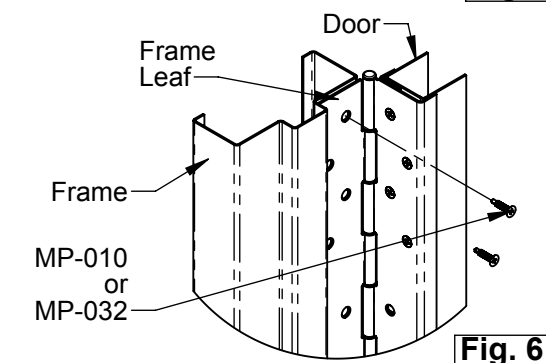

Fig. 6
2. Attaching hinge to frame: (**Fig. 6**)